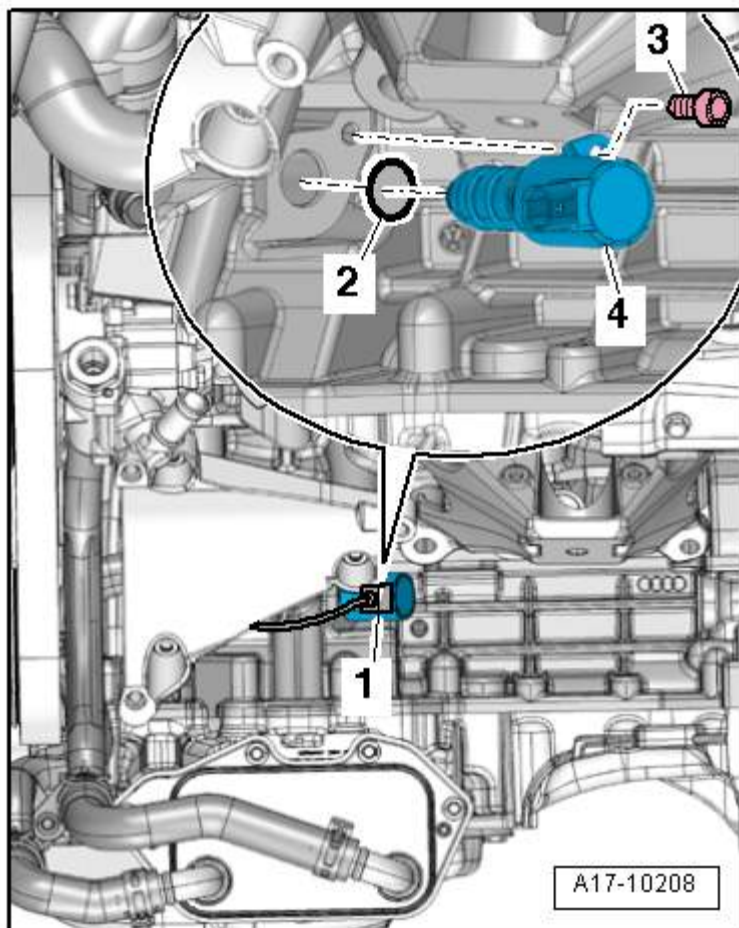

Fig. 20: Identifying Oil Pressure Regulation Valve -N428-
- Component location, refer to **Fig. 20**